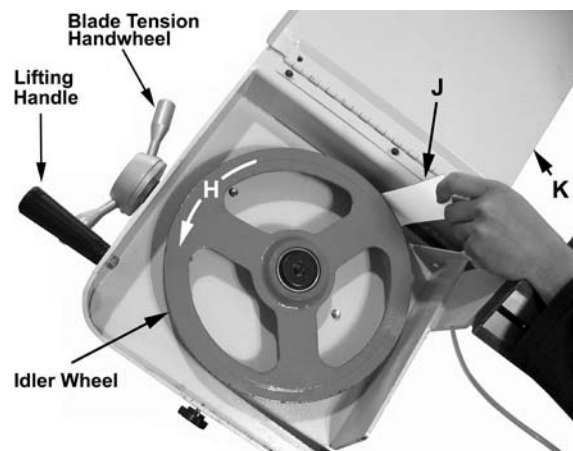

Figure 14
6. Start the saw. Turn the *adjustment screws* (F) to tilt the *idler wheel* (Figure 14) until the blade is touching the shoulder of the idler wheel.
Put a 6-inch length of *paper* (J, Fig. 14) between the blade and the wheel as shown (the saw is still turned on). The paper should not be cut as it passes between the wheel shoulder and the blade.
15. Close the *wheel covers* (K, Fig. 14).